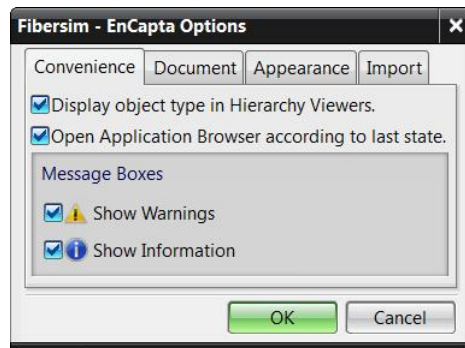

Figure 1–14
**Fibersim Options** have some controls for global settings and others for part specific. To access Fibersim Options, select **Tools > Options > Fibersim Options** from the Fibersim Window. Fibersim options dialog box should appear as shown in Figure 1–15.